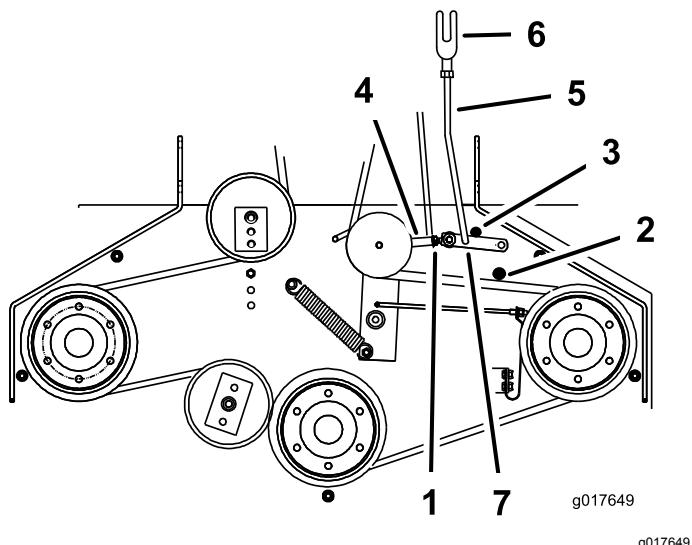

Figure 45
5. Ensure that the assist arm is against the rear assist-arm stop on the deck (Figure 45).
7. The assist arm should contact the front assist-arm stop on the deck. If it does not contact, adjust the bellcrank so that it is closer to the gusset (Figure 45).
8. To adjust the assist-arm link, remove the hairpin cotter from the assist arm (Figure 45).
11. Install the assist-arm link into the assist arm and secure it with the hairpin cotter (Figure 45).